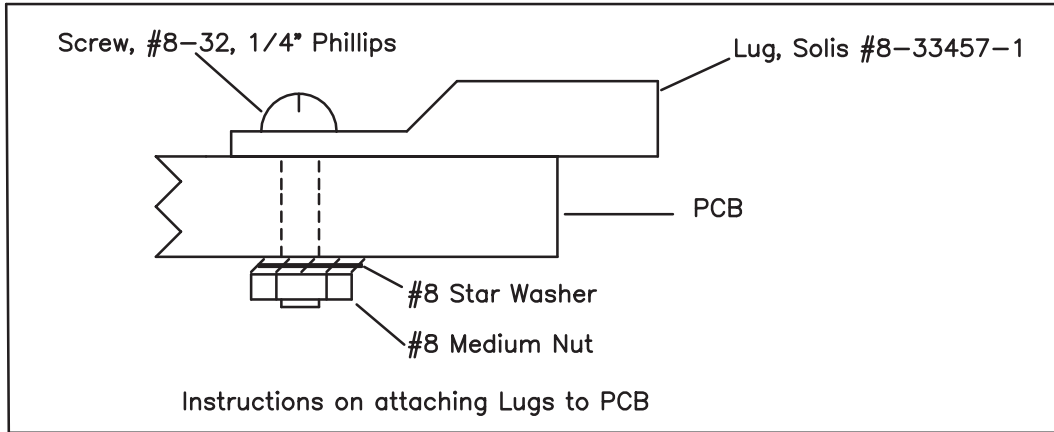

Figure 4. Lug Assembly Detail
5. Install lugs with appropriate hardware per Figure 4, below. Ensure the lug is seated on the square pad for good contact.